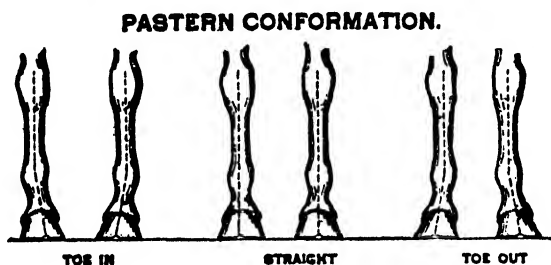

FIG. 84
1. Stand in front of the horse and look straight at the front of his hoofs to see if the hoofs are straight, toeing in or toeing out. Fig. 84.